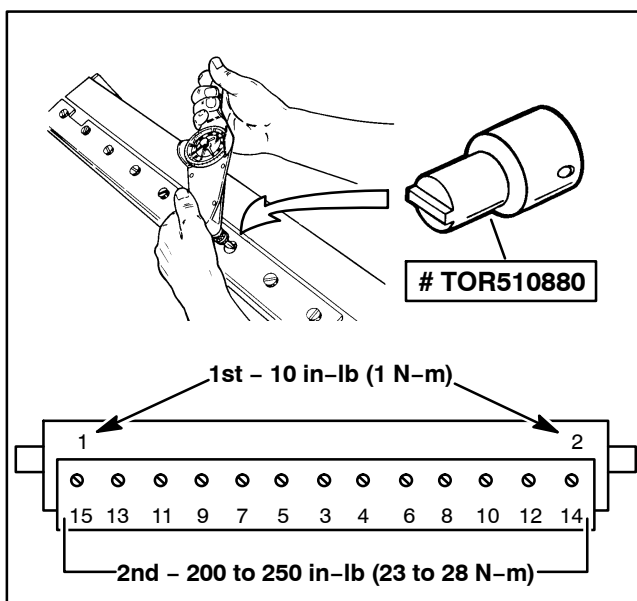

Figure 20
6. Working from the center of the bedknife toward each end (Fig. 20), tighten screws from **200 to 250 in-lb (23 to 28 N-m)**.